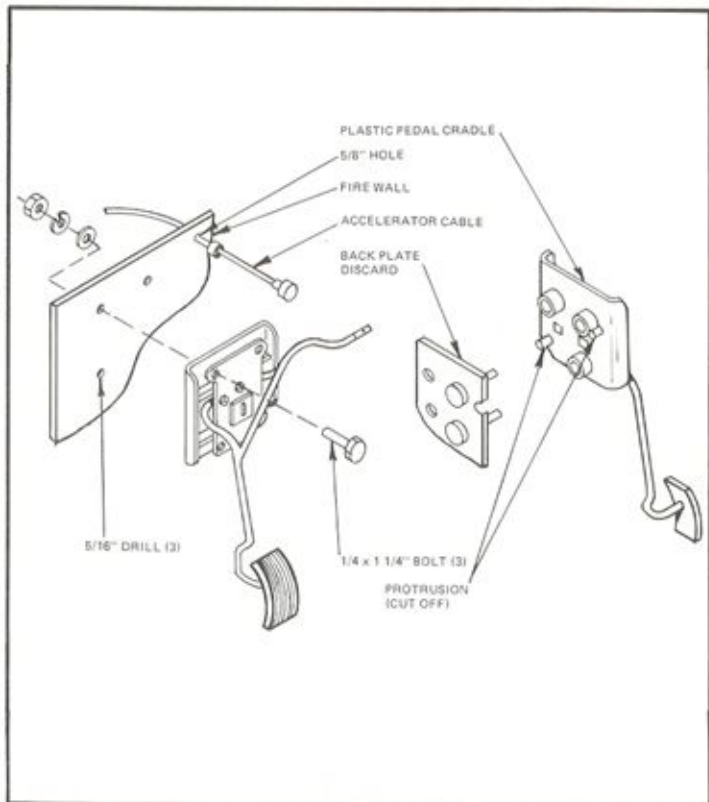

Figure 39
- Trim and drill cowls as per Figure 39. Carefully align cowls with body, matching rear of cowls with forward edge of body. Adjust height of cowls until top edge of cowl aligns with mold seam on body.